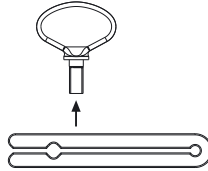

Fig. 7
- Dismount the handle, see Fig. 7.